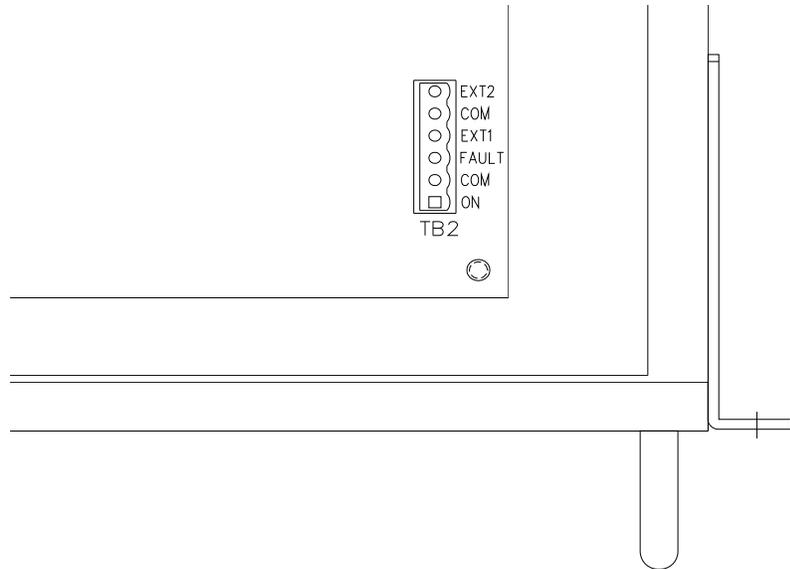

Figure 3-2: I/O & Control Connections
To control the unit with a dry contact closure, connect the two control wires to TB2 pins 1 (ON) and 2 (COM) (see Figure 3-2). When pins 1 and 2 are connected together the unit will sequentially power on all 6 outputs. When the connection between pins 1 and 2 is removed, the unit will sequentially power all outputs off. The controlling device must be rated for 12V, 5mA. Pin 3 (FAULT) is an output from the IS-20D unit that reflects the Fault status.